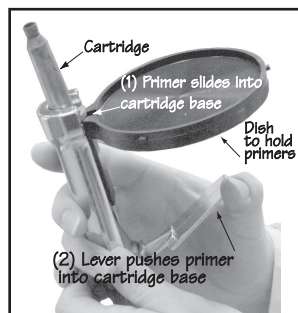

Figure 4.3-1.
4.3.7. Range Operator: **Press** a new primer into the cartridge, using the Auto Prime Primer Loader (Figure 4.3-1).